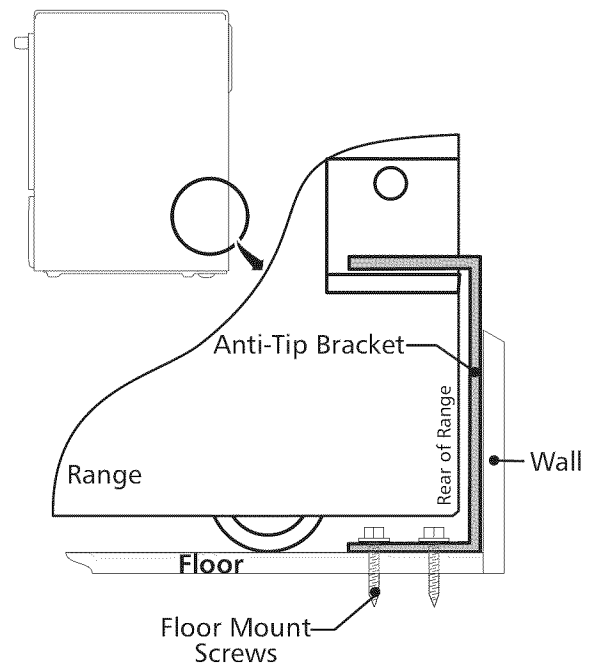

Figure 22
4. Remove template and place bracket on floor. Line up holes in bracket with marks on floor and attach with 4 screws provided. Bracket must be secured to solid floor (Figure 22). If attaching to concrete floor, first drill 3/16" (0,48 cm) dia. pilot holes using masonry drill bit.